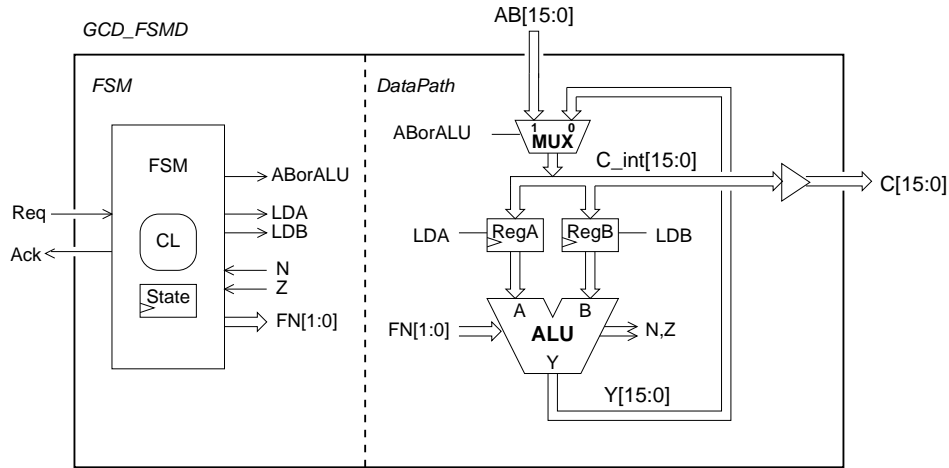

Figure 2: A possible FSMD-style implementation of the GCD-module, using two registers and one ALU.
Looking at the algorithm, it is obvious that a possible implementation could involve a finite state machine controller and a datapath containing two registers (*A* and *B*), an ALU and one or more busses/multiplexors to implement the required signal flow. One example of such a possible FSMD-style (Finite State Machine with Data-path) implementation is shown in Figure 2 and Table 1.
- Assume that the data-path is implemented as shown in in figure 2, that A, B and C are 16-bit unsigned integers, and that the technology-primitives available on the FPGA are D-flip-flops and 6-input LUT's. Estimate how many flip-flops and LUT's are needed to implement the data-path? Briefly explain your estimate. Hint: this is not a difficult question – you do not need to perform a detailed implementation, a LUT can implement any 6-input Boolean function.
Let us now continue the design of the GCD-module, and let us aim for a simple implementation using a finite state machine controller and a datapath with the smallest possible amount of hardware resources: one ALU, two registers (for A and B) and some selection circuitry to provide data-pathways between these resources. Such a datapath was introduced previously and shown in Figure 2.
We will now explore VHDL's capabilities to express structure, i.e., schematics. Your task will be to develop a structural implementation of GCD using a finite state machine and a structural implementation of the data path as shown in figure 2. You will have to write some new VHDL files from scratch, in which you define the new entities and architecture bodies. The structural architecture of the entity gcd must consist of two entities FSM and datapath, and the structural architecture body of datapath must use instances of the following components:
- alu : 16-bit ALU with the functions described in Figure 2.
- a) Develop a structural VHDL model of the system shown in figure 2. This involves:
(1) A new structural architecture body for gcd_module consisting of two entities/components FSM and datapath. (2) A definition of the datapath entity. (3) A structural architecture body for the datapath.